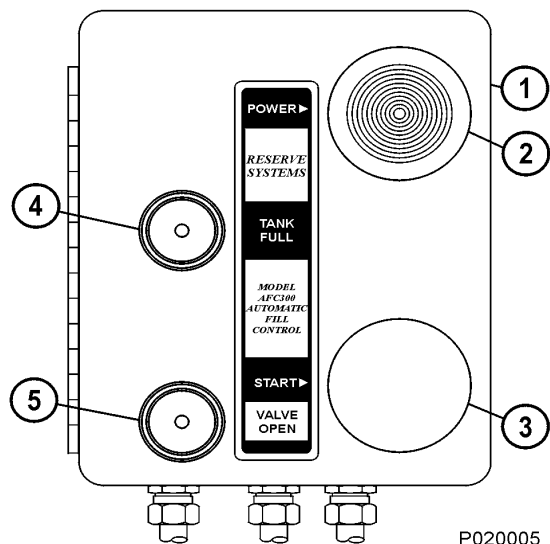

FIGURE 40-1. CONTROL PANEL
2. On remote control box (1, Figure 40-1), pull out on power switch (2) to turn on the system.
3. Push start switch (3). VALVE OPEN light (5) should illuminate and the filling process will begin.
4. When the tank is full, the VALVE OPEN light will turn off and FULL light (4) will illuminate.
6. Press start switch (3) for a couple of seconds.
8. Push power switch (2) to turn off the system.